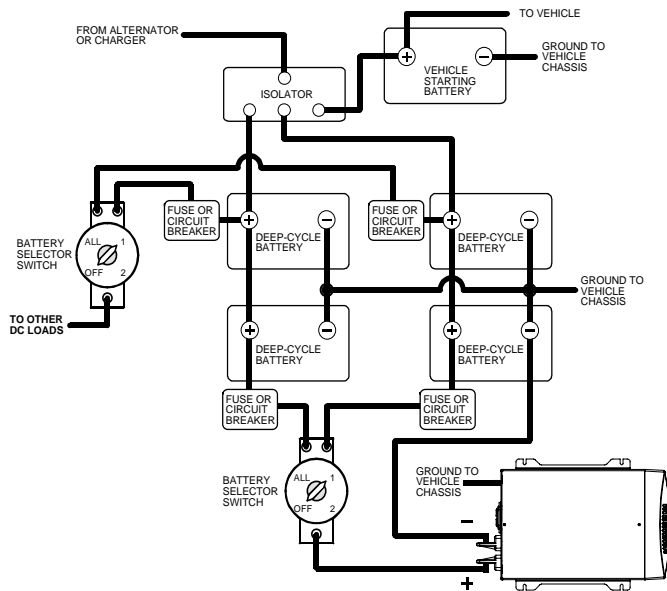

Figure 7 Configuration for Heavy Loads
4. When configuring for heavy loads (see Figure 7), install a battery selector switch and connect it to the DC-rated fuse (or circuit breaker).
When configuring for heavy loads (see Figure 7), attach the connector on the positive cable to the battery selector switch that is already connected to the DC-rated fuse (or circuit breaker).